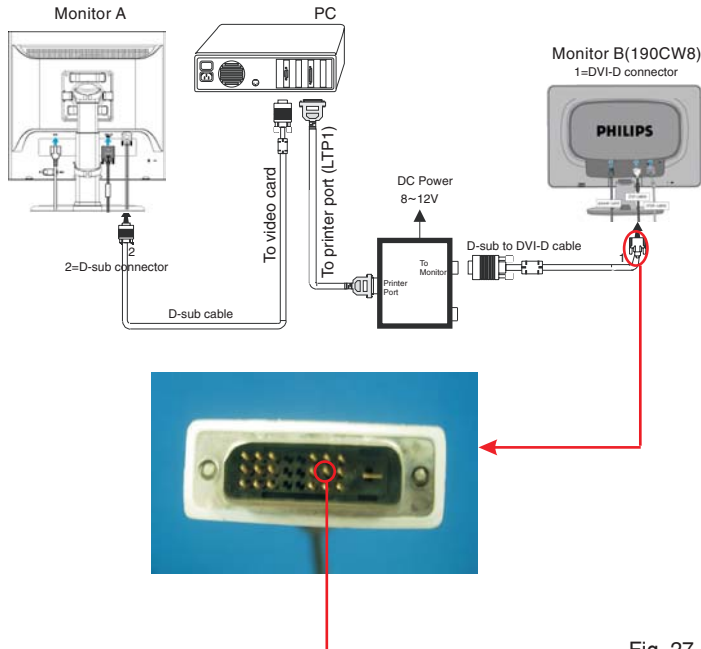

Fig. 27
Step 1: After initialize alignment box, connecting all cables and box as shown in Fig. 27(Unplug the 15th pin of The DVI cable connecting with monitor).